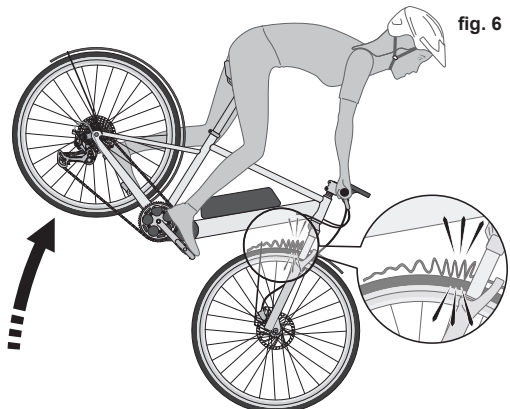

fig. 6
**!** **WARNING:** Any object that unexpectedly and abruptly stops the rotation of the front wheel can cause the e-bike and rider to pitch forward (fig. 6), which can result in serious injury or death.